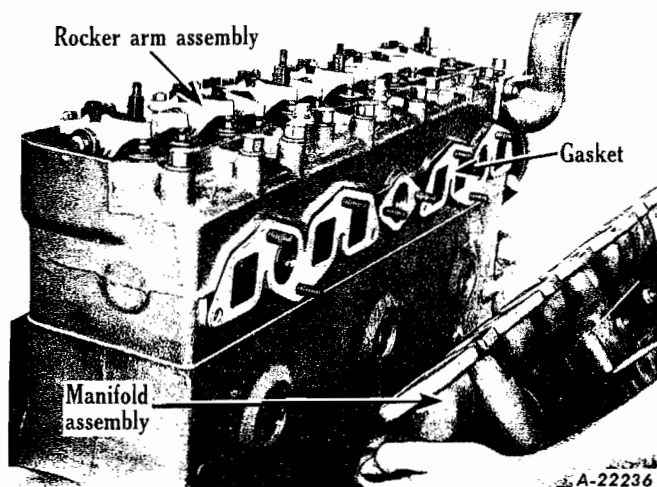
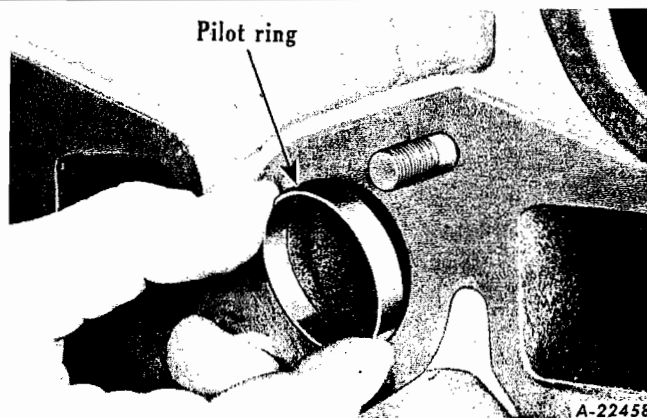

Fig. 27
Fig. 28
1. After removing eight nuts, eight flat washers, four capscrews and three bolts from exhaust flange, remove both intake and exhaust manifolds as a unit (Fig. 27). Remove two manifold pilot rings (Fig. 28). NOTE: Let manifolds cool before starting above operations; this will help to prevent manifold warpage.